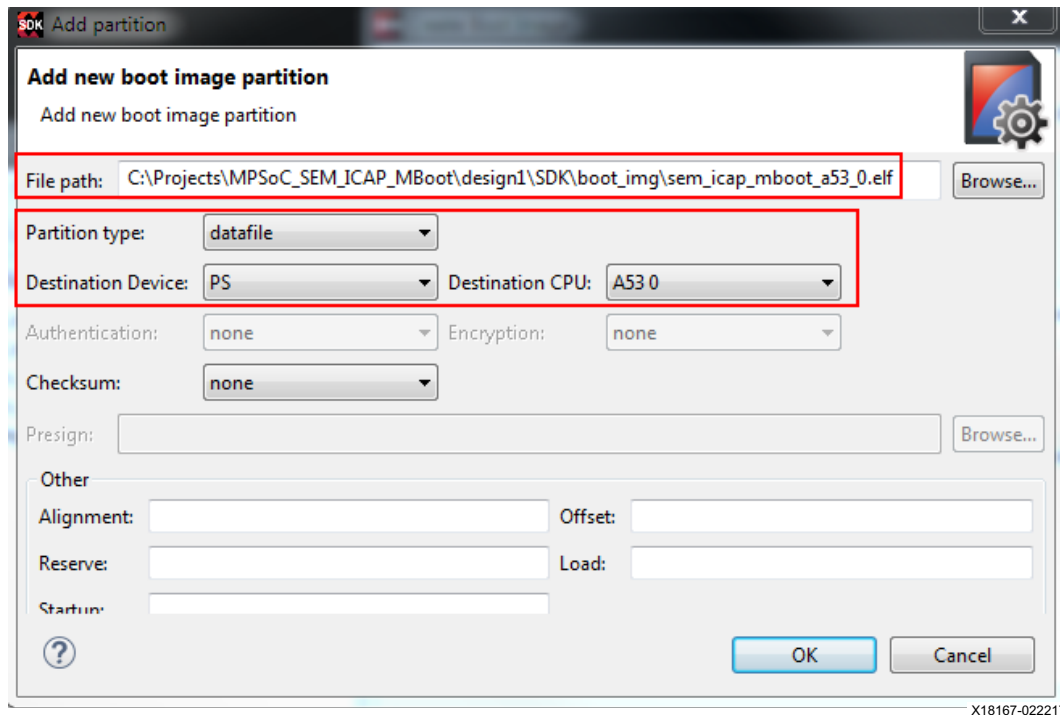

Figure 16: Design 1 - SEM ICAP MultiBoot Partition
- b. Verify the Partition type is **datafile**, the Destination Device is **PS**, and the Destination CPU is **A53 0**. See Figure 16.